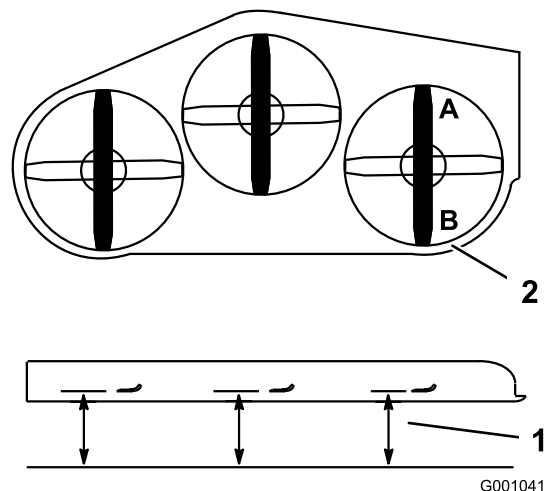
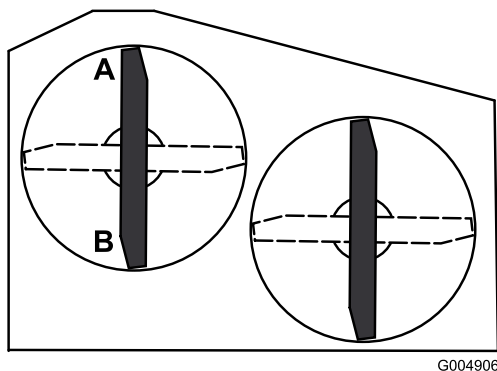

Figure 65
Figure 66
- Position one blade front-to-rear. Measure at **A** and **B** locations from a level surface to the cutting edge of the blade tips (Figure 65 or Figure 66). For 36 inch mower decks use Figure 66.
4. Position the blades front-to-rear. Measure at **C** and **D** locations (Figure 65) from a level surface to the cutting edge of the blades.